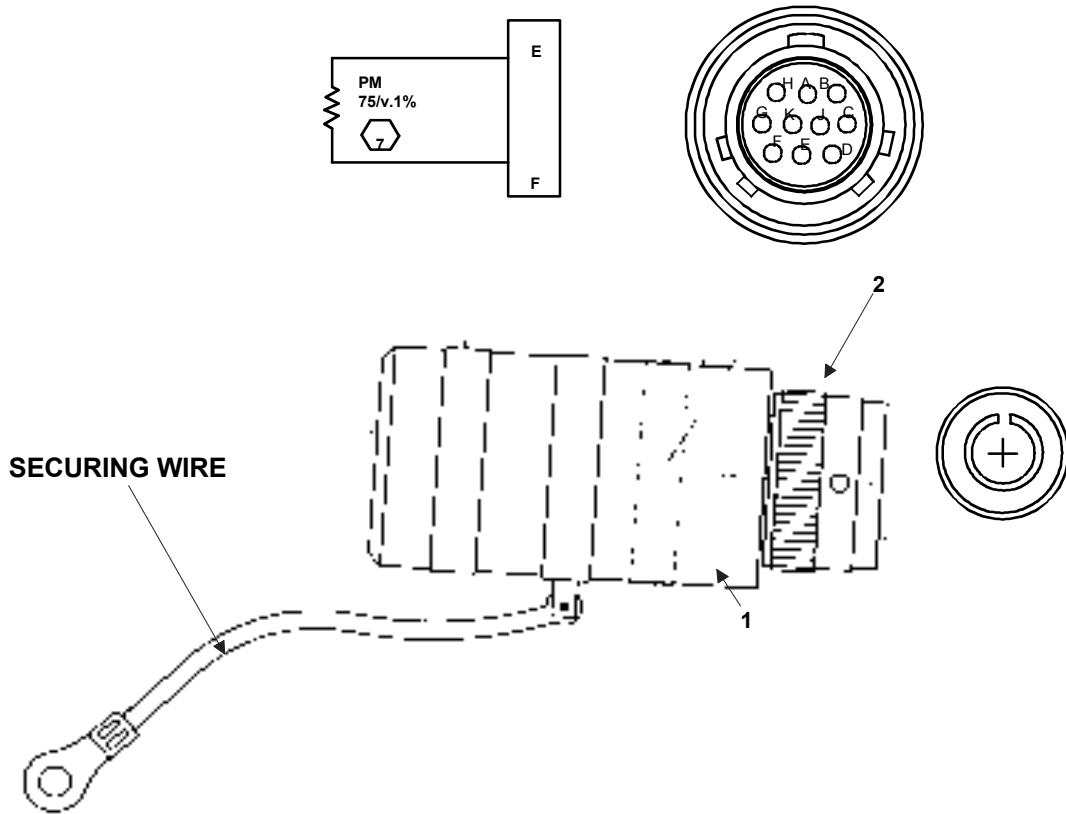

Figure 3-10. 1553 Termination, P/N 12979006
**3.4.4. General Repair Requirements.** Refer to Figure 3-10. Repair or replace connector as follows:
- g. Using small wire brush, clean sealing compound residue from threads of connector body (2) and shorting cap (1).
- h. Apply primer to threads of connector body (2) and shorting cap (1).
- i. Apply sealing compound to threads of connector body (2) and shorting cap (1).
- j. Install shorting cap (1) on connector body (2) and torque to 3.7 ft lb (5 N.m).
**3.4.5. Inspection.** Refer to Figure 3-10. Inspect 1553 Termination as follows: